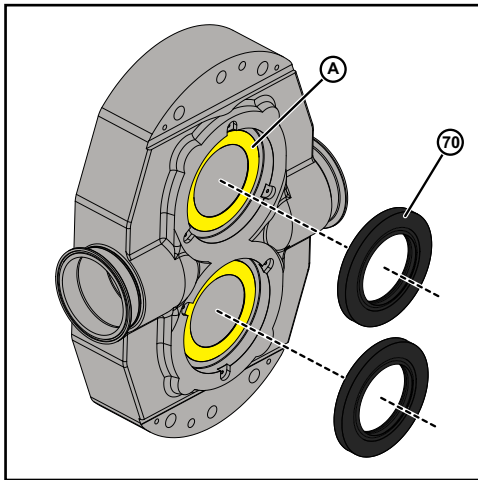

Figure 118 - Install Lip Seals
3. Apply a thin bead of silicone sealant (A) to the body, as shown in Figure 118.
4. Install the lip seals (70) into the pump body, as shown in Figure 118. Use the press tool to light press firmly and evenly into place.